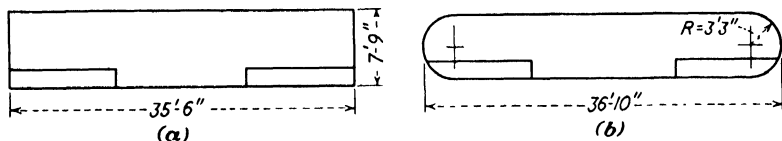

Fig. 154.
3. Find the area of (a) the rectangular wing in Fig. 154, (b) the rectangular wing with semicircular tips.